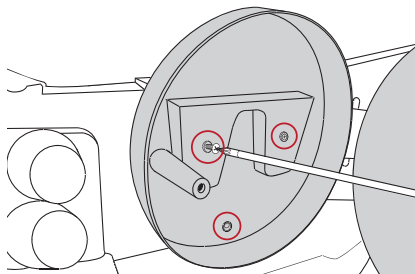

Figure 12
- Open and place the spare wheel case on the spare wheel carrier. Screw a black wide head screw into each of the two top holes to secure the spare wheel case onto the spare wheel carrier. Screw the silver wide head screw into the one bottom hole to secure the spare wheel case onto the vehicle. See figure 12.